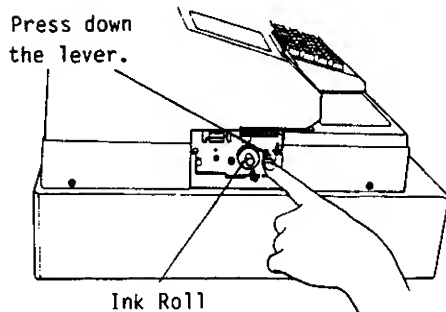

Fig. 2
3. Press down the lever, and withdraw the Ink Roll (Fig. 2).